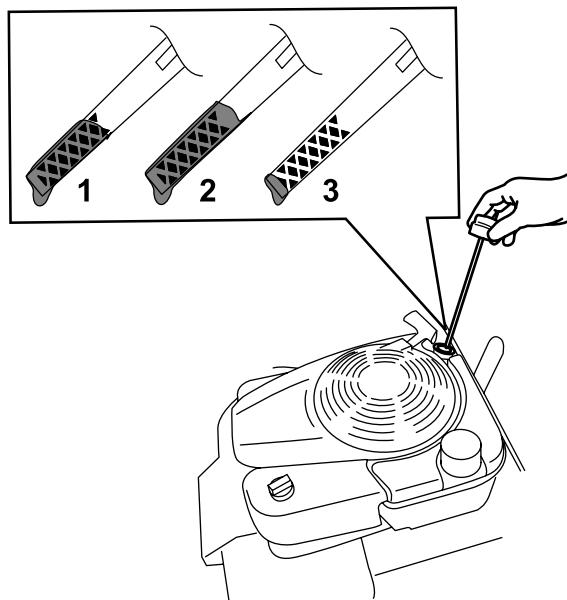

Figure 13
2. Remove the dipstick by rotating the cap counterclockwise and pulling it out (Figure 13).
5. Read the oil level on the dipstick (Figure 13).
- If the oil level on the dipstick is too low (Figure 13), carefully pour a small amount of SAE 30 or SAE 10W-30 detergent oil into the oil-fill tube, wait 3 minutes, and repeat steps 3 through 5 until the oil on the dipstick is at the correct level. For the oil type, refer to Changing the Engine Oil \(page 20\).
- If the oil level on the dipstick is too high (Figure 13), drain the excess oil until the oil on the dipstick is at the correct level; refer to Changing the Engine Oil \(page 20\).